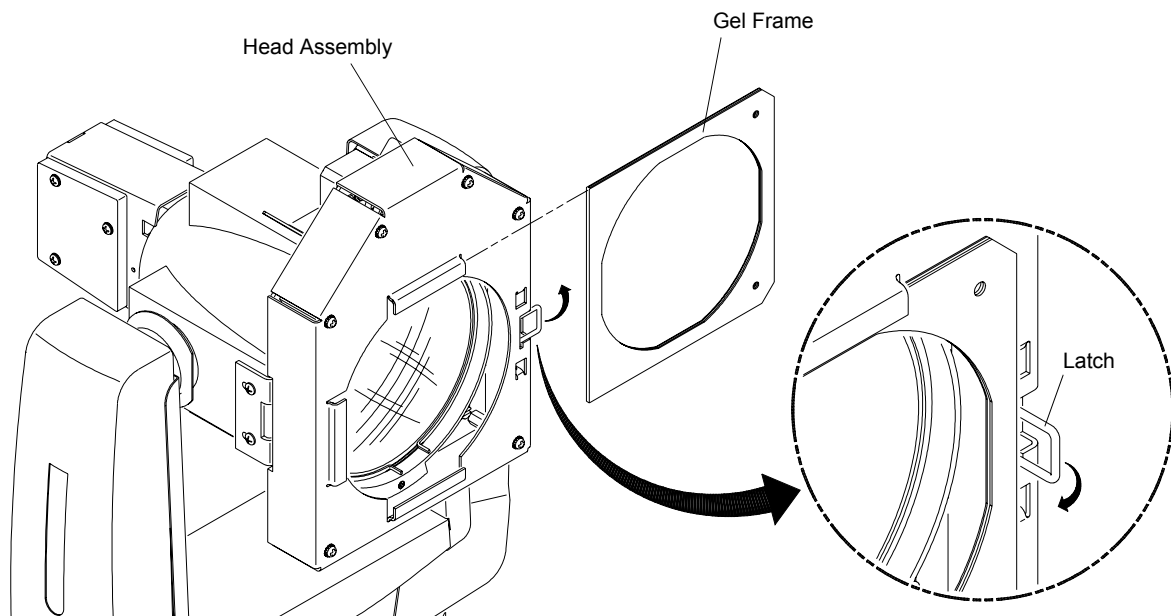

Figure 4-4: Installing/Replacing a Color Gel
- Step 1. At front of luminaire, press latch to release gel frame as shown (**Figure 4-4**).